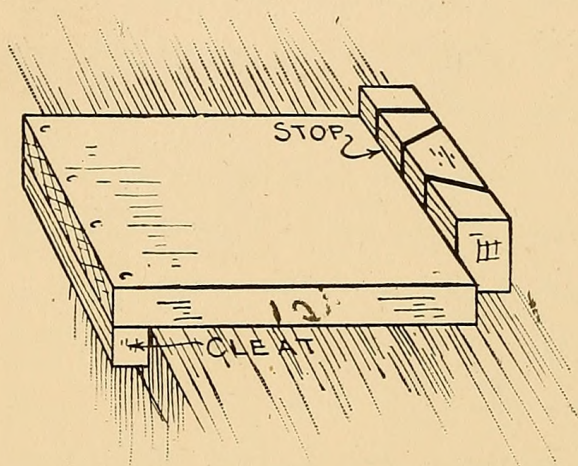

FIG. 60. — Bench-hook.
**A Bench-hook** (Fig. 60) is used for a number of operations. For paring with your chisel and chopping with